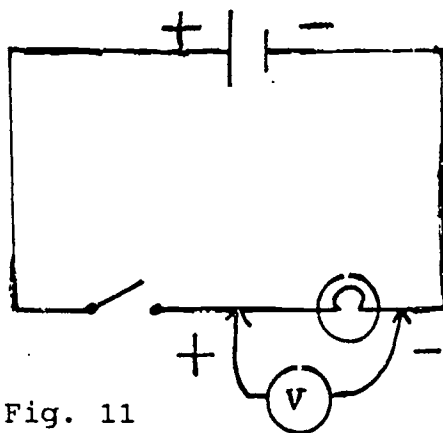

Fig. 11
2. Connect the voltmeter, as in Fig. 11, making sure that the positive terminal of the voltmeter is connected to the positive terminal of the cell.